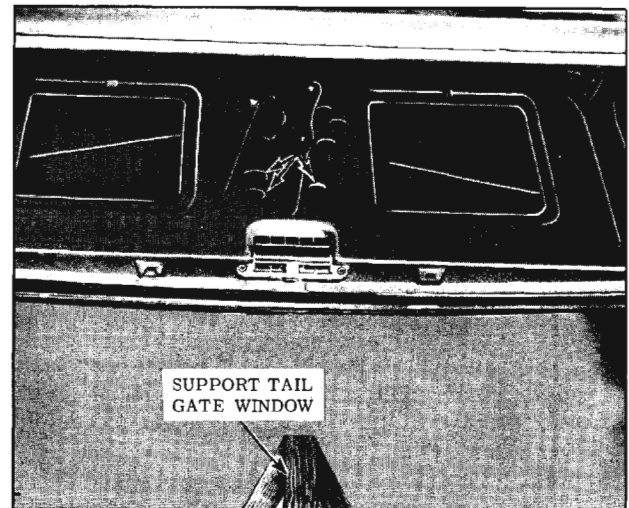

Fig. 16-195 Outside Handle Removal
2. Detach tail gate inner panel water deflector sufficiently to gain access to access holes, shown at "A". (Fig. 16-195)
2. Detach tail gate inner panel water deflector sufficiently to gain access to access holes "A" for removal of assembly attaching nuts. (Fig. 16-195)